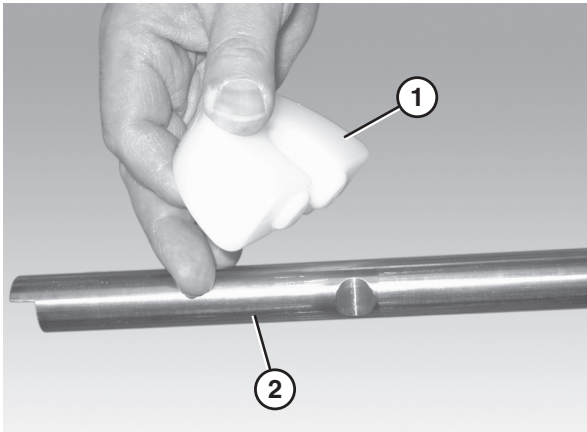

Figure 34
1. Attach the chain return shoes (Figure 34, item 1) to the return shaft (Figure 34, item 2).